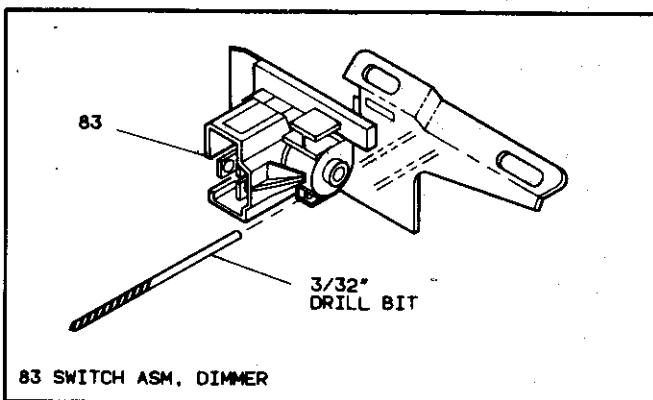

Figure 29 - Adjusting Dimmer Switch
- Dimmer switch (83). (See figure 29.)
- Dimmer switch assembly (83). (See figure 29.)